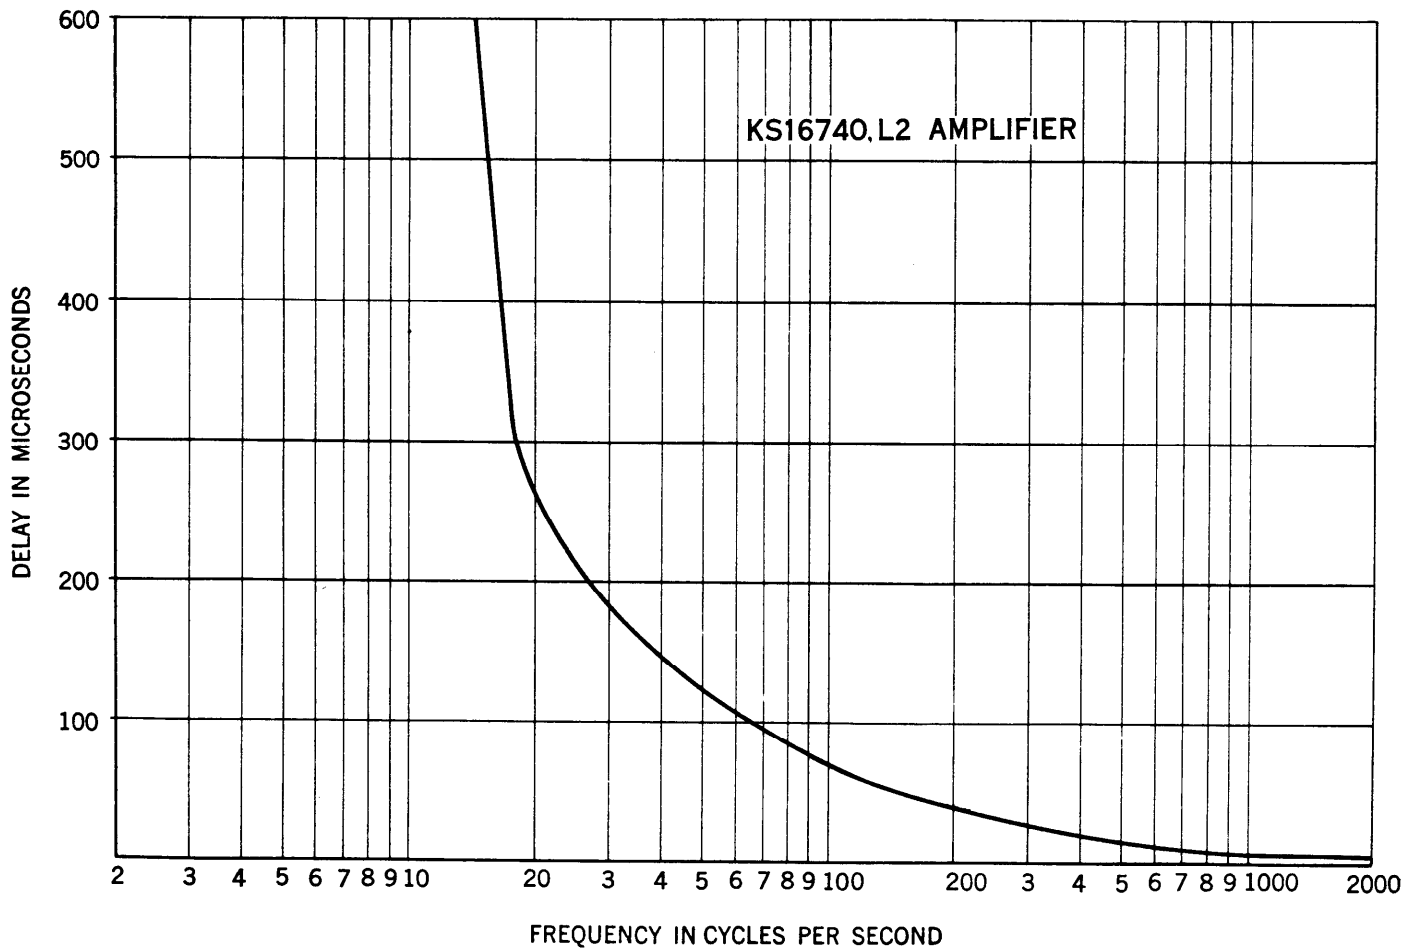

Fig. 9 - Delay Distortion vs Frequency - 2 kc
5.05 Fig. 9 shows the typical delay distortion characteristics of the amplifier with frequency below 2000 cycles.